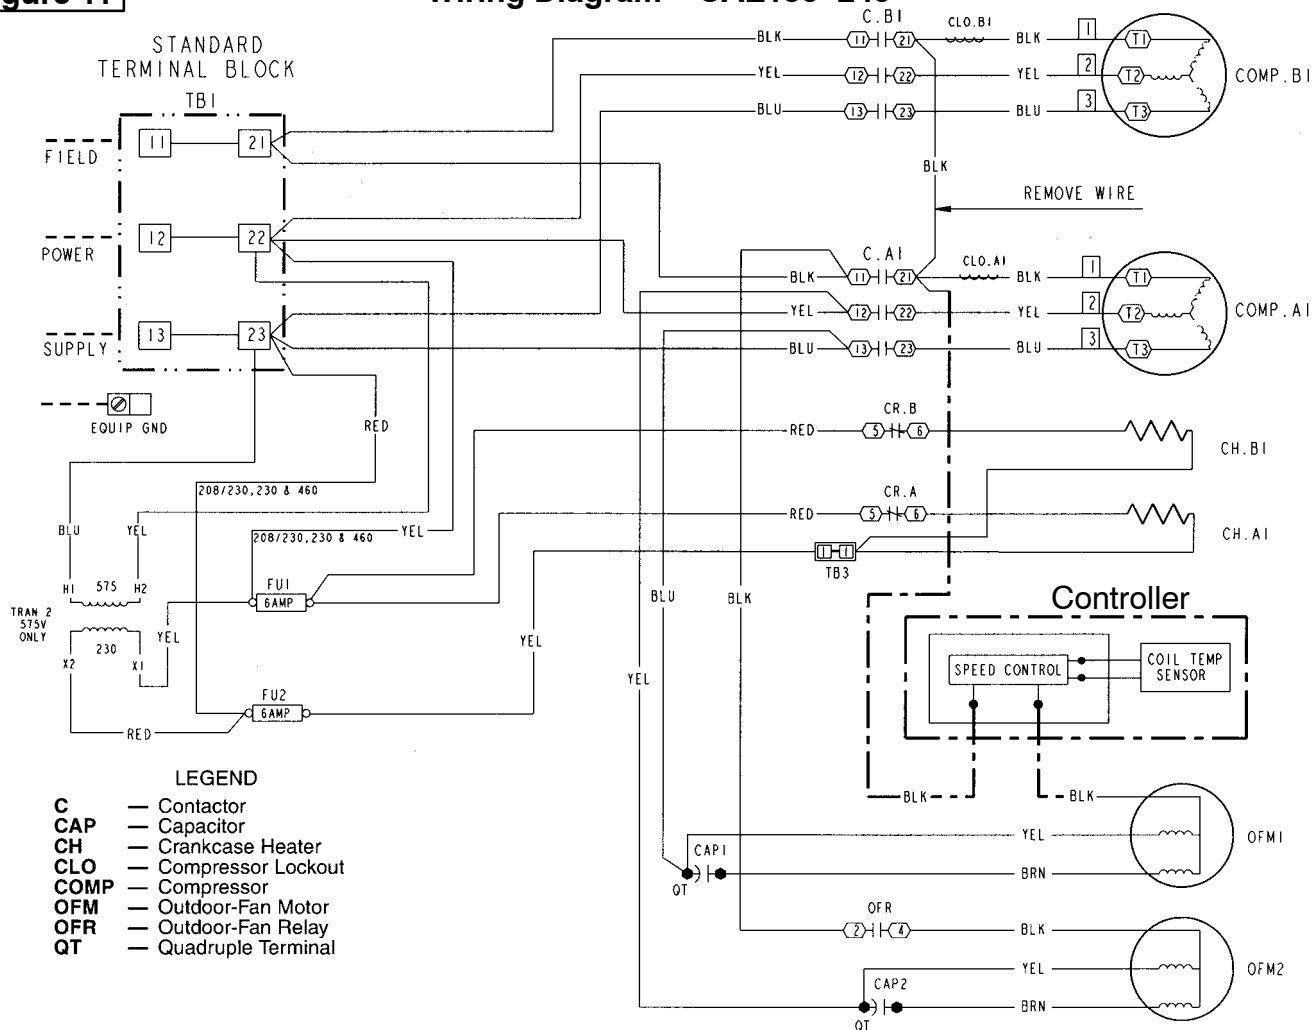

Figure 12
7. Winter start control is required on all CAE150-240, see Fig. 12. (Kit Part # DNWINSTR001A00)